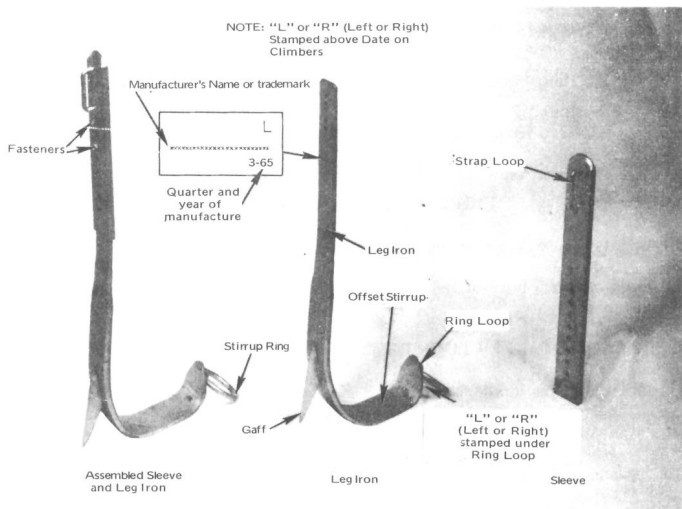

FIGURE 1. Climber
- 2.01 Climbers that are supplied with the 7-3/16-inch sleeve will adjust from 14-3/4 inches to 18-1/2 inches. A longer sleeve (10-3/16 inches), is also available that will allow adjustment up to 21-1/2 inches. See Figures 1 and 2.